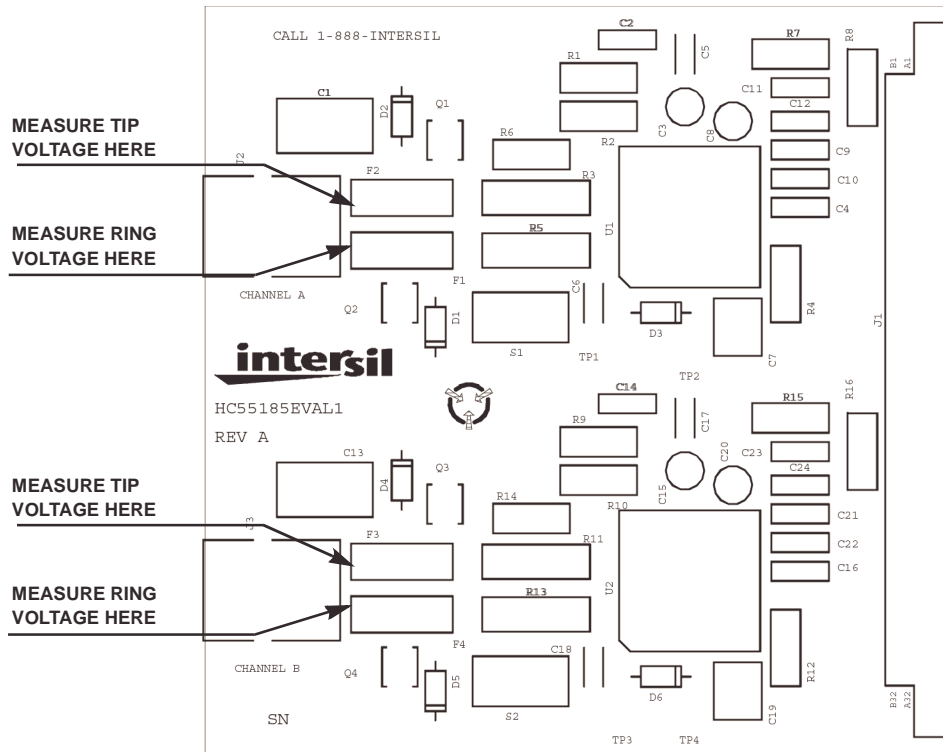

FIGURE 6. DAUGHTER BOARD LAYOUT
4. Measure the tip and ring voltages (reference Figure 6) and compare to those in Table 3 (onhook).
The device provides linear amplification to the signal applied to the ringing input, V_{RS} . The differential ringing gain of the device is 80V/V. The circuit model for the ringing path is shown in Figure 6.